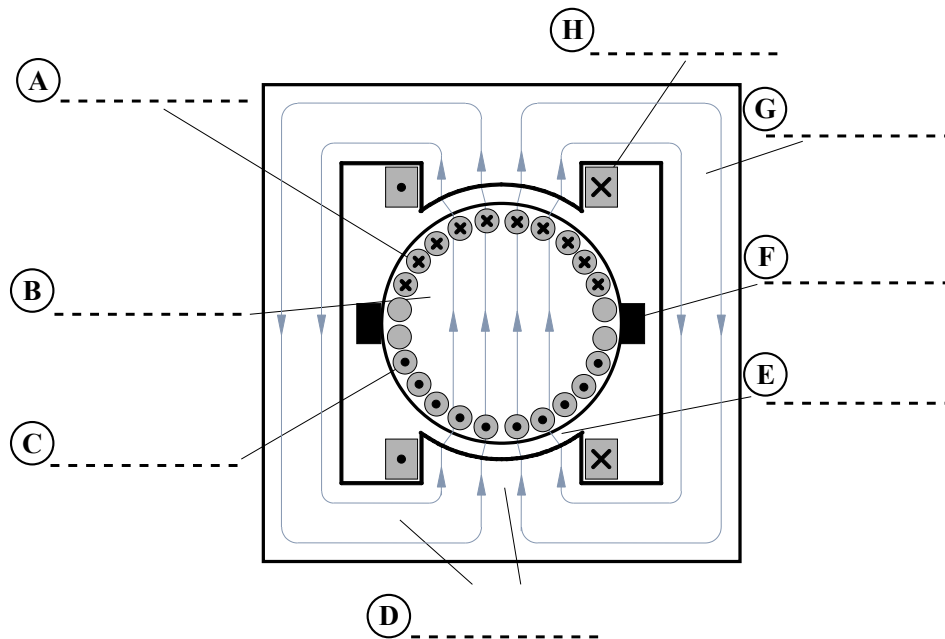

Fig. 3: DC machine cross section with missing component labels.
Fig. 3 shows a simplified DC machine cross section. The symbols \bullet and \times indicate technical conductor current directions (out of / into the drawing plane). Assume that the drawn field lines represent the complete air-gap field, i.e., no additional field lines exist to the left and right of the shown field region. Thus, outside the depicted air-gap field region the flux density is assumed to be zero.
2.1 Add the missing component labels (A–H) in Fig. 3.
2.2 In Fig. 3, draw the resulting Lorentz force on one exemplary forward conductor (•) and one return conductor (×). Also, indicate the resulting torque direction at the shaft. [2 Points]